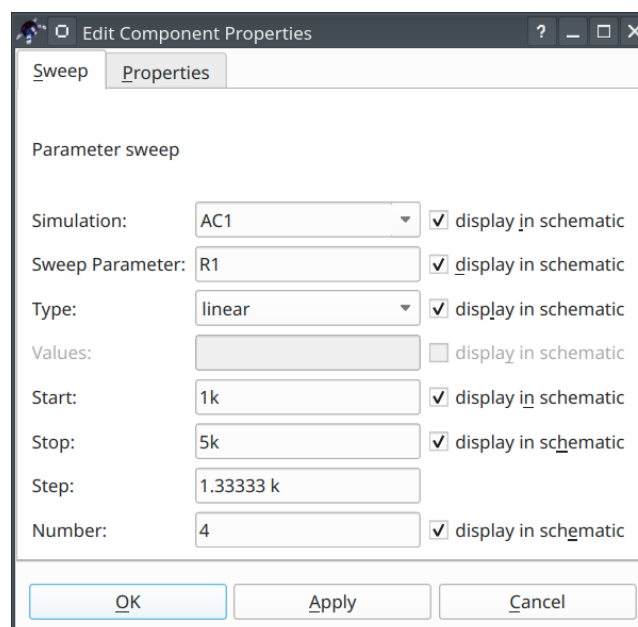

Figure 14: Setting parameter sweep properties
- **Step 2:** Set the properties of the parameter sweep simulation. After the double click the dialog window will be opened (Figure 14). The *Simulation* drop-down list is the the name of simulation component to which the parameter sweep is attached. For our example we need to select the AC1 simulation from the drop-down list, because we attaching the parameter sweep to the AC simulation. The *Sweep parameter* input field is the **device** name. Variables or other objects name are not acceptable here! Enter the R1 device name here. The *Start*, *Stop*, *Step*, and *Number* input fields serve for the definition of the sweep range. We will sweep the R1 value from 1 kOhm to 5 kOhm and take 4 sweep points.